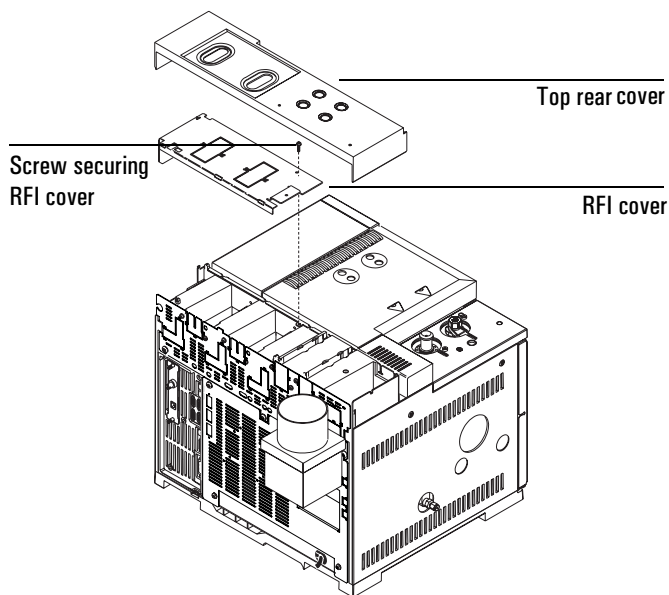

Figure 15. Removing covers
2. Remove the top rear cover by lifting it up. Remove the screw securing the RFI cover and remove the RFI cover. See Figure 15.